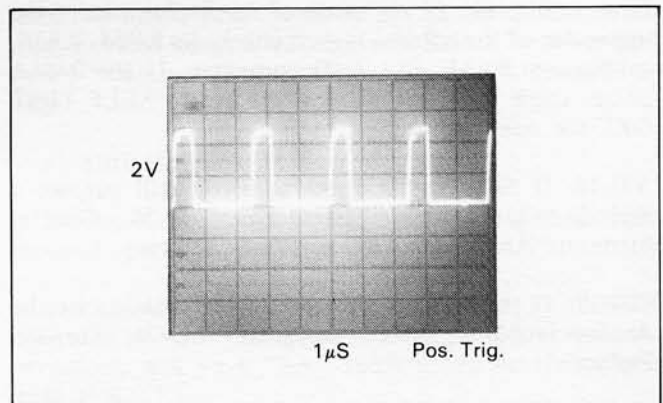

Figure 7-D-1. ALE at JM505
c. Make sure ALE at JM501 is good as shown in Figure 7-D-1. If the signal is missing or incorrect, make sure the microprocessor's clock, U501 (pins 2 and 3) is 6MHz. If the clock signal is missing or wrong, try replacing the crystal Y501. If the signal is still wrong, replace U501.